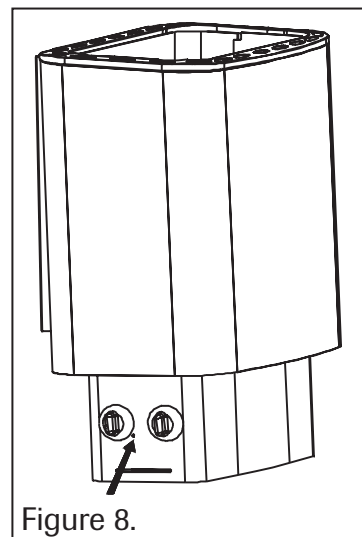

Figure 8.
- If the temperature in the sauna is rising dangerously high the temperature regulator switches off the stove. The temperature regulator can be switched on again by pressing a blunt tool in the hole with a diameter of 3 mm at the end of the electrical box (Figure 8).